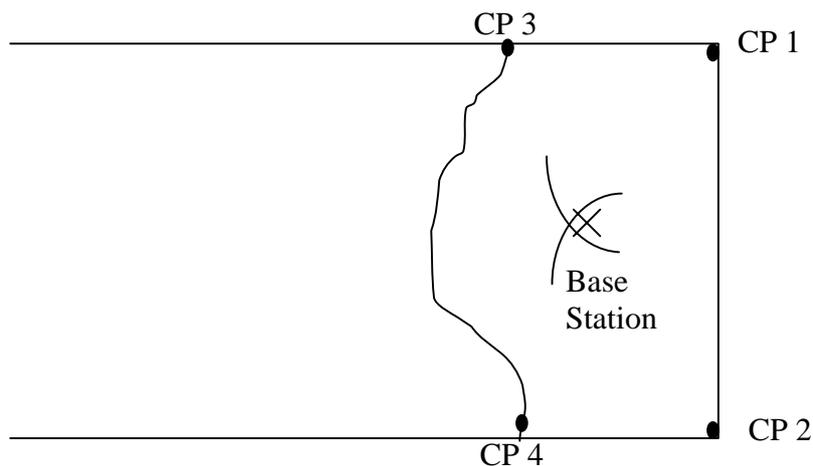
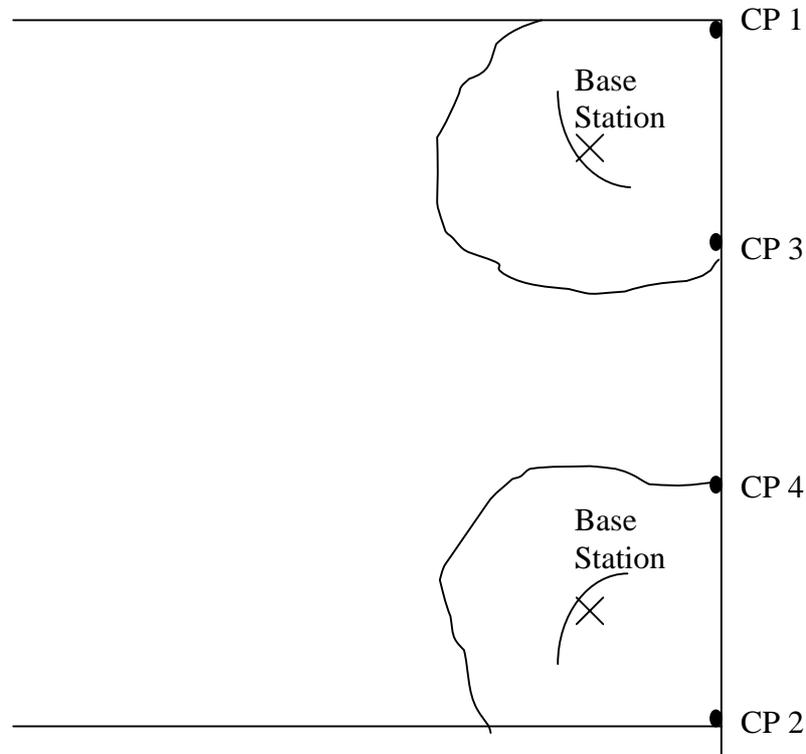

Figure 6. Example of a Single Floor Coverage.
Figure 7. Example of a Single Floor Coverage.
The following is the basic procedure to determine the cell centre and the cell boundaries. In figure 6, an example of a single floor is depicted.
1. Determine the outer points in the building. These points are the so-called "Critical Points". (In figure 6, these are CP1 and CP2).
7. Determine new Critical Points (CP 3 and CP 4 in figure 6) at the external walls and repeat the procedure from step 1 onwards.
If the width of the area is more (see figure 7) than the area that is depicted in figure 6, then the following procedure must be executed:
1. Determine the outer points in the building (see figure 7). These points are the so-called "Critical Points". (in figure 7, these are CP1 and CP2).